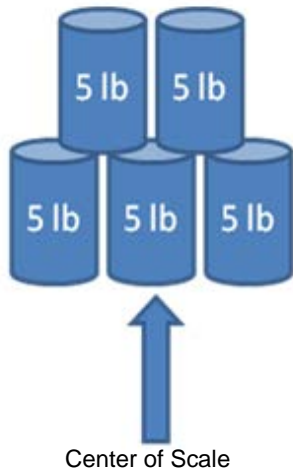

Figure 4-4 Weight Calibration Configuration for Pounds
- a. Place 25 lb weights on the scanner as shown in Figure 4-4; three 5 lb weights centered on the center of the scale, and two 5 lb weights centered on top.